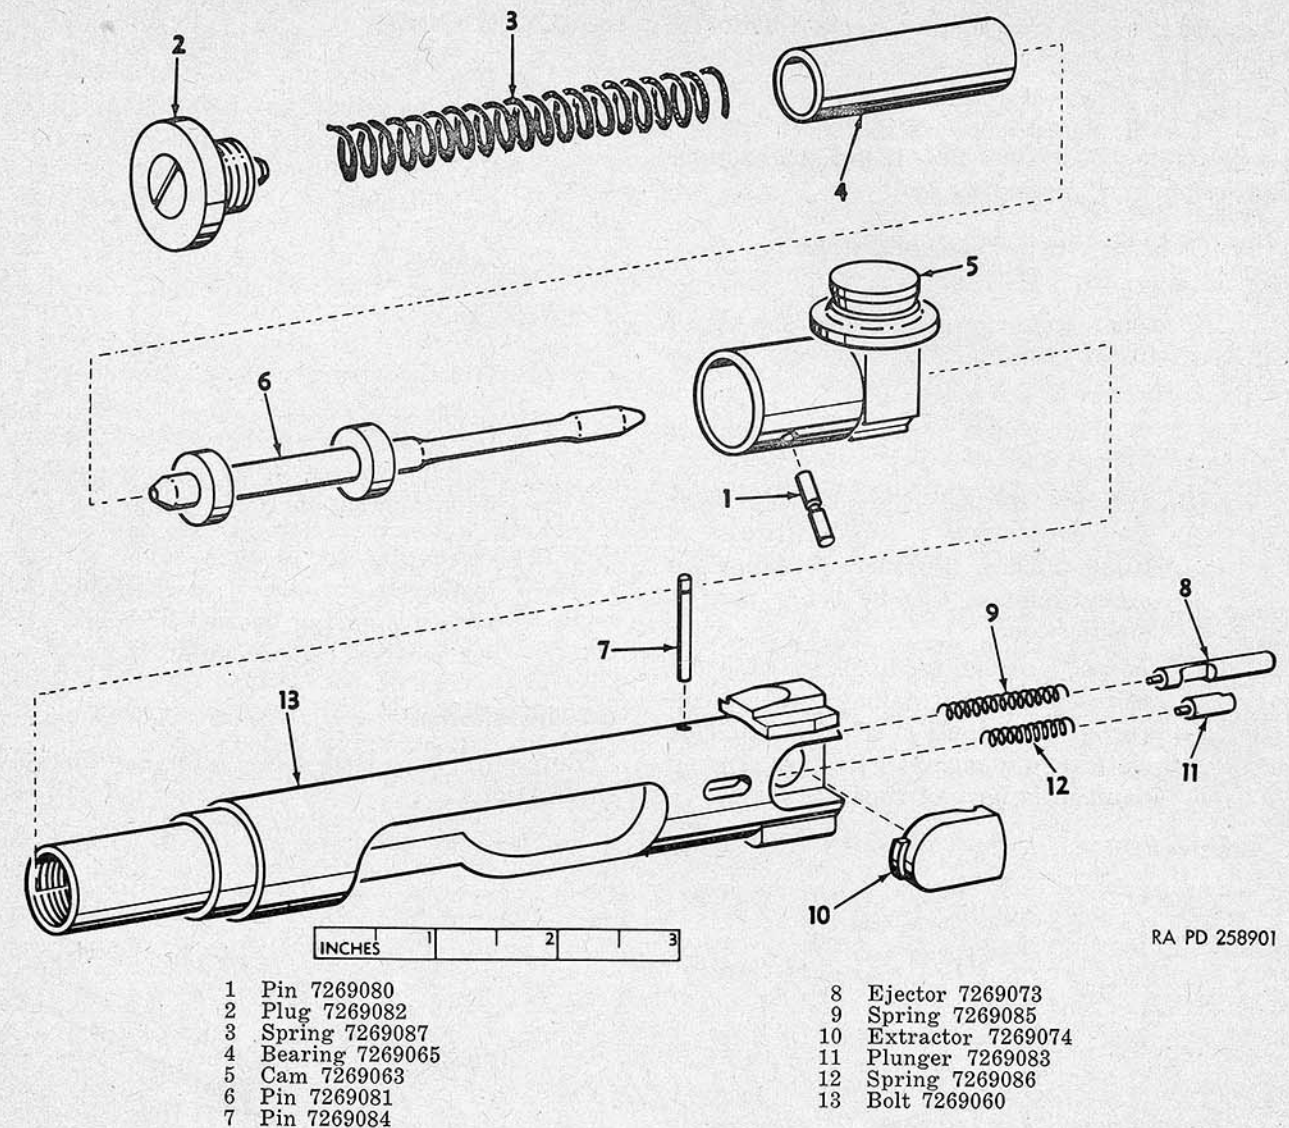

Figure 17. Bolt group—exploded view.
(fig. 17)
b. *Inspection and Repair.* (fig. 17)
- (1) Inspect face of stripping lug for deformation. Face of stripping lug cannot be rounded and must make full contact with cartridge base.
- (2) Locking lugs must not be burred or otherwise deformed.
- (3) Inspect all bolt camming surfaces for burrs or other deformations.
- (4) Inspect firing pin aperture in face of bolt. Diameter may not exceed 0.108 inches.
- (5) Inspect extractor slot for wear or damage that could prohibit free functioning of extractor.
- (6) Insert firing pin in bolt in fully forward position. Dimension of protrusion through face of bolt should be within a minimum of 0.035 inches and maximum of 0.043 inches.
- (7) All springs will be inspected for deformation and will be installed for functional testing. Any malfunction attributable to spring operation will be cause for spring replacement.
- (8) Actuator rollers on actuating cam assembly must function freely and